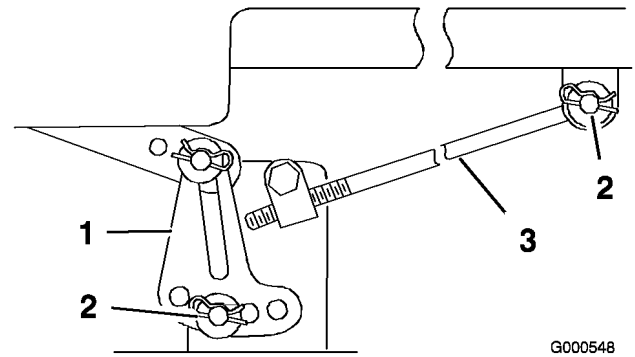

Figure 48
Note: Before removing the mower, make a note for which holes are used in the leveling brackets (Figure 48).
5. Remove the hairpin cotter and washer from the adjusting rod (Figure 48) on each side of the mower.
6. Remove the hairpin cotter and washer at the mower leveling brackets (Figure 48) on each side of the mower. Note which hole the leveling bracket is mounted in for future installation. Slide the brackets off of the mounting pin.
5. Attach the adjusting rod to the machine with the washer and hairpin cotter (Figure 48) on each side of the mower.
6. Slide the leveling brackets onto the mounting pins and secure them with the washers and hairpin cotters (Figure 48).